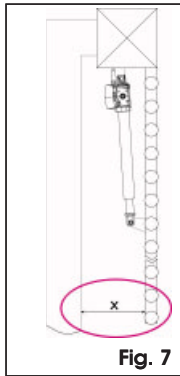

Fig. 7
**⚠** When the operator has been installed, check if dimension "X" in Fig. 7 is at the minimum of 500 mm. If dimension "X" is less than 500 mm, run an impact test on the point indicated in Fig.7, as described in standard UNI EN 12445, and make sure that the measured values conform to the specifications of standard UNI EN 12453.
If the thrust values are not within the values specified in standard UNI EN 12453, the zone indicated in figure 7 **MUST BE** protected with a protective device conforming to the UNI EN 12978 standard.